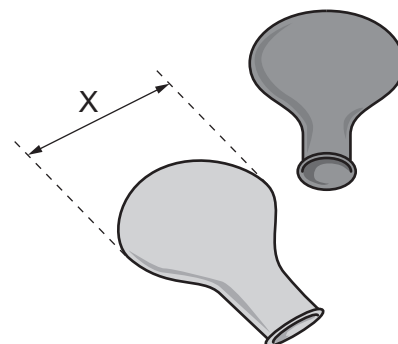

Fig. 2.1
- Two rubber balloons of the same colour and with the shape shown in Fig. 2.1.